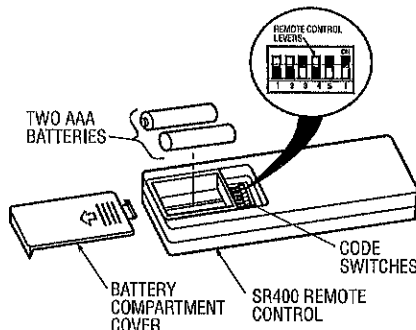

Figure 18
- ☐ 1. Remove the battery cover by pressing firmly below the arrow and sliding the cover off the control (Figure 18).